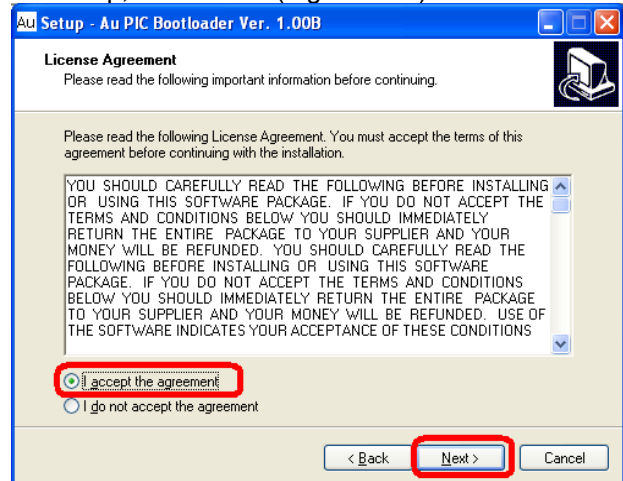

Figure C-3
3. "License Agreement" window show up, read the license agreement and select "I accept the agreement", then click "Next" to continue (Figure C-3).